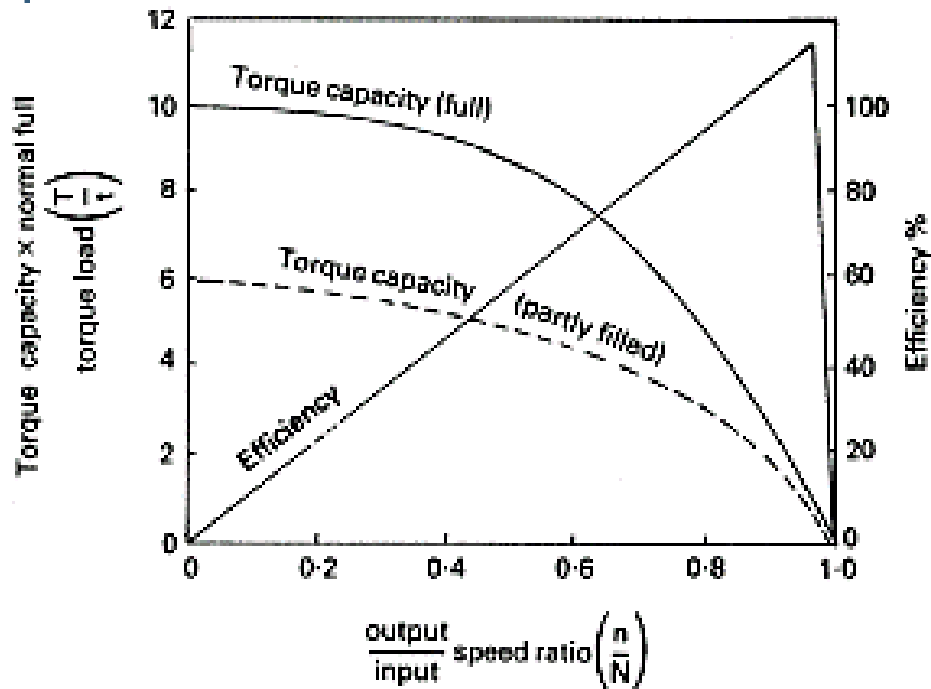

Fig. 5. Relationship of torque capacity, speed ratio and efficiency for fluid coupling.
- The fluid coupling efficiency is defined as the ratio of the power available at the turbine to the power supplied to the impeller. The difference between input and output power, besides the power lost by fluid shock, friction and heat, is mainly due to the relative slip between the input and output members (Fig. 5).